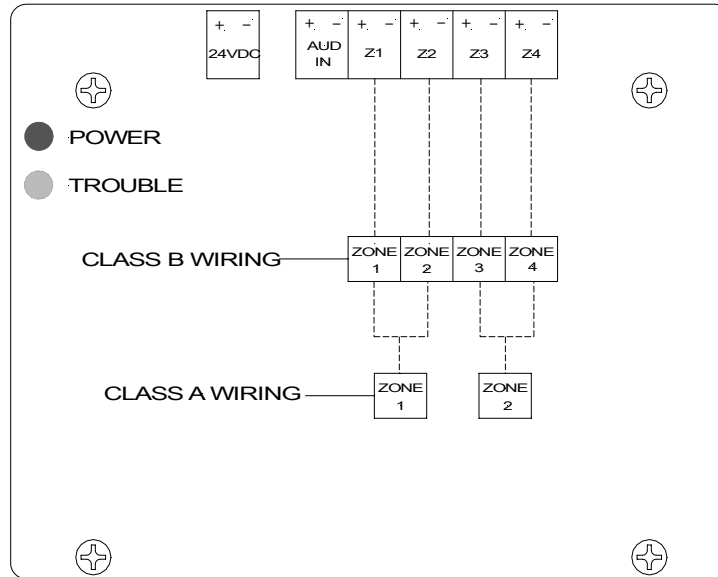

Figure 8.
2. See Figure 8 or the Splitter cover silkscreen for terminal block wiring designations.